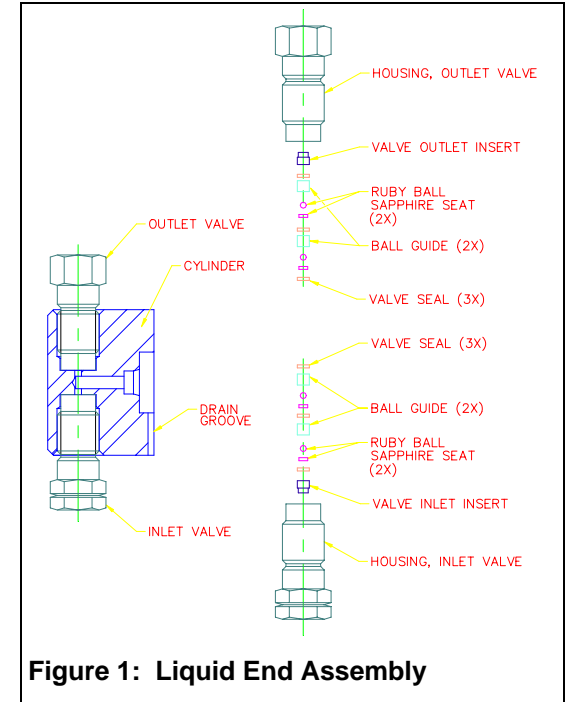

Figure 1: Liquid End Assembly
The valves are the two hexagon-shaped components on the liquid end assembly (see Figure 1). Inlet valves can be distinguished from outlet valves by the groove on the hexagonal part of the valve. To prevent the internal components of the valve from falling out upon removal keep the pump in its normal position when removing the inlet valve and turn the pump upside down when removing the outlet valve (CAUTION: where appropriate, be sure to plug the oil hole on the top of motor gearbox before turning the pump upside down). Remove the valves with a 1/2" wrench, turning in a counter-clockwise direction. After removal, be careful to keep the valve oriented so the translucent washers face upwards. If you wish to rebuild the valve, you may purchase valve rebuild kits.
3. Reassemble the valve by placing the valve insert in the valve housing using the larger (3/16") dowel pin provided (1373 and 1374 valves use a total of 3 washers, one is installed before installing the valve insert). Make sure the valve insert is oriented correctly (see Figure 1). Press a Kel-F® seal into place. Assemble a ruby ball and sapphire seat, with the shiny side of the sapphire seat facing the ruby ball. Place a ball guide over the assembly (alternately, the ruby ball can be placed carefully - do not drop - in the ball guide with a pair of tweezers and the sapphire seat placed on top). After the ruby ball, sapphire seat and ball guide are assembled, slide the ball guide assembly into the valve housing. On both valves, make sure the ball guide assembly is oriented in the correct direction (see Figure 1). Install another Kel-F® seal, followed by another ruby ball, sapphire seat, and ball guide assembly. Press the final Kel-F® seal into place. This washer should extend approximately 0.020 - 0.030" from the valve housing.